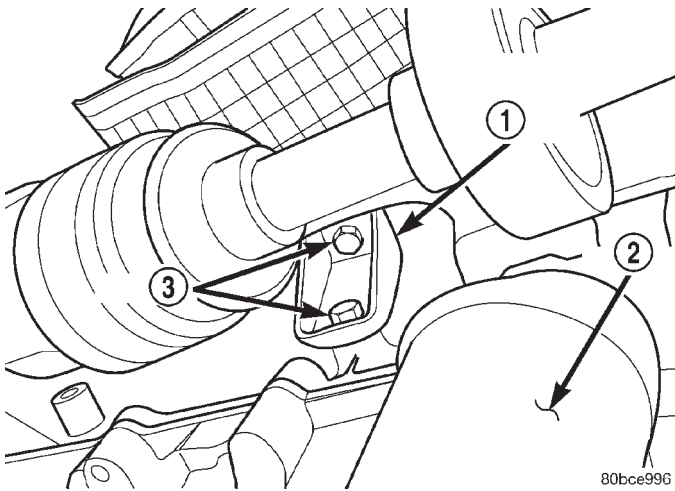
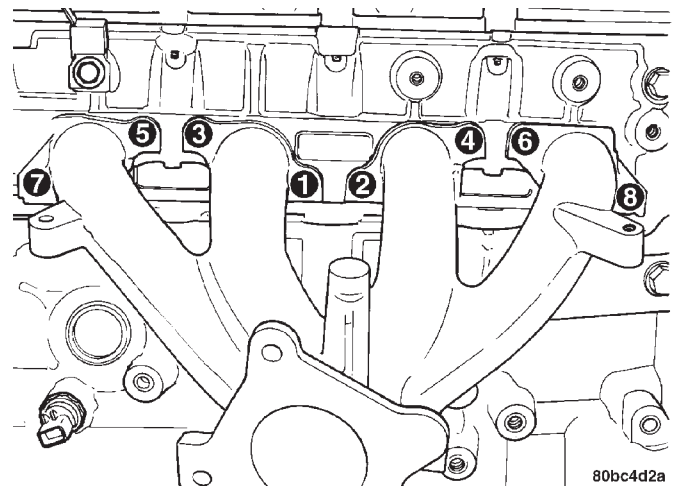
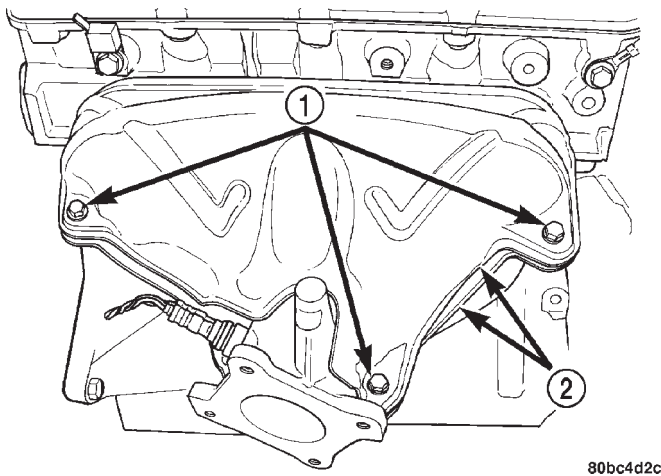

Fig. 36 Exhaust Manifold Support Bracket—ULEV
Fig. 38 Exhaust Manifold Tightening Sequence
Fig. 37 Exhaust Manifold Heat Shields
- (5) Remove fasteners attaching exhaust system flex joint to exhaust manifold flange. Move exhaust system rearward to clear flange studs.
- (6) ULEV equipped—remove the support bracket from cylinder block to exhaust manifold (Fig. 36).
- (7) Lower vehicle.
- (8) Disconnect CCV hose from rear of cylinder head cover.
- (9) Disconnect oxygen sensor connector and harness clip.
- (10) Remove heat shield attaching bolts (Fig. 37).
- (11) Remove upper heat shield for access to manifold bolts.
- (12) Remove exhaust manifold bolts.
- (13) ULEV equipped—remove cylinder head cover. Refer to procedure in this section. Cover cylinder head opening with a suitable covering.
- (14) Remove exhaust manifold from top of vehicle, between cylinder head and cowl.
- (1) Position exhaust manifold and gasket in place.
- (2) Install exhaust manifold bolts and tighten in sequence shown in (Fig. 38) to 23 N-m (200 in. lbs.).
- (3) ULEV equipped—position upper heat shield on exhaust manifold. Install bolts and tighten to 23 N-m (200 in. lbs.).
- (4) Position lower and upper heat shield on exhaust manifold. Install heat shield bolts and tighten to 11 N-m (95 in. lbs.) (Fig. 37).
- (5) Connect oxygen sensor electrical connector and harness clip.
- (6) ULEV equipped—install cylinder head cover. Refer to procedures in this section.
- (12) ULEV equipped—install support bracket to cylinder block and exhaust manifold (Fig. 36). Snug all bolts first then tighten to 54 N·m (40 ft. lbs.).